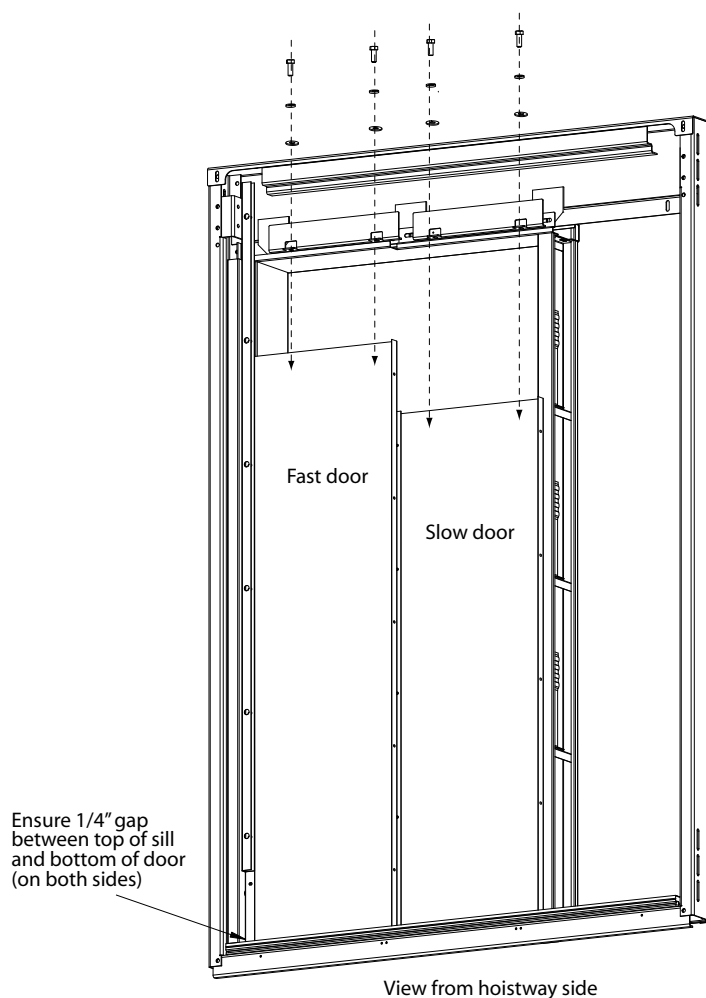

Figure 19 Install Landing Doors
Follow the procedure below to install the landing doors (PN 252104-P) using four 1" hex head bolts (two per door). See Figure 19.
1. Position the slow door on top of the sill. Drop a weld nut 103685 into each of the two slots on the top of the door. Secure the door to the hanger using two hex head bolts (3/8"-16 x 1") with a lock washer and a flat washer for each bolt (on the head side). See Figure 19.
3. Position the fast door on top of the sill. Drop a weld nut 103685 into each of the two slots on the top of the door. Secure the door to the hanger using two hex head bolts (3/8"-16 x 1") with a lock washer and a flat washer for each bolt (on the head side). See Figure 19.